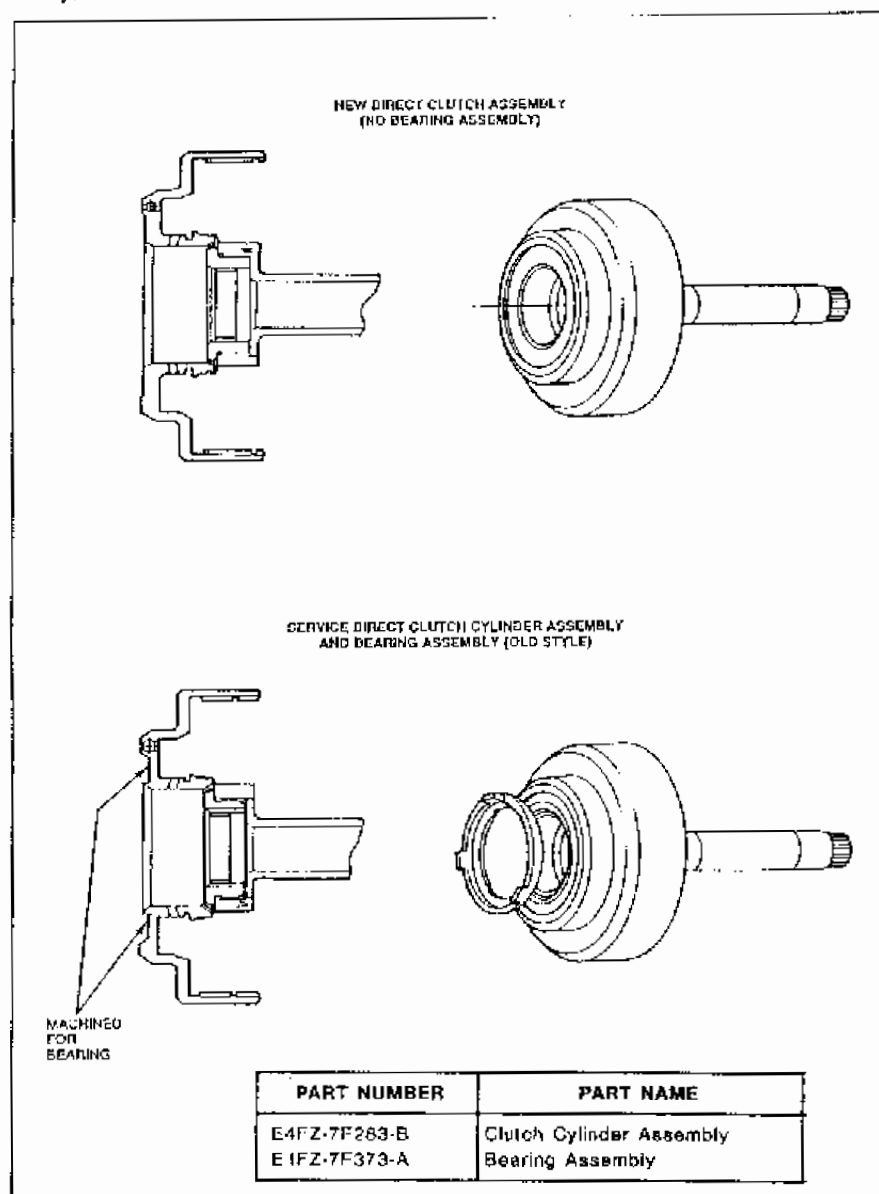

Figure 1
These valve bodies require five (5) checkballs placed in the locations shown in Figure 1, and is for following vehicles: